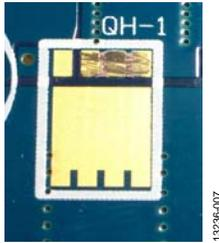

Figure 7. 8-Lead SOIC, PP5×7 with Solder Mask Removed
- Fitting the smaller 3 mm × 3 mm MOSFET on these pads requires that the solder mask be removed between the source pads, as seen in Figure 7.